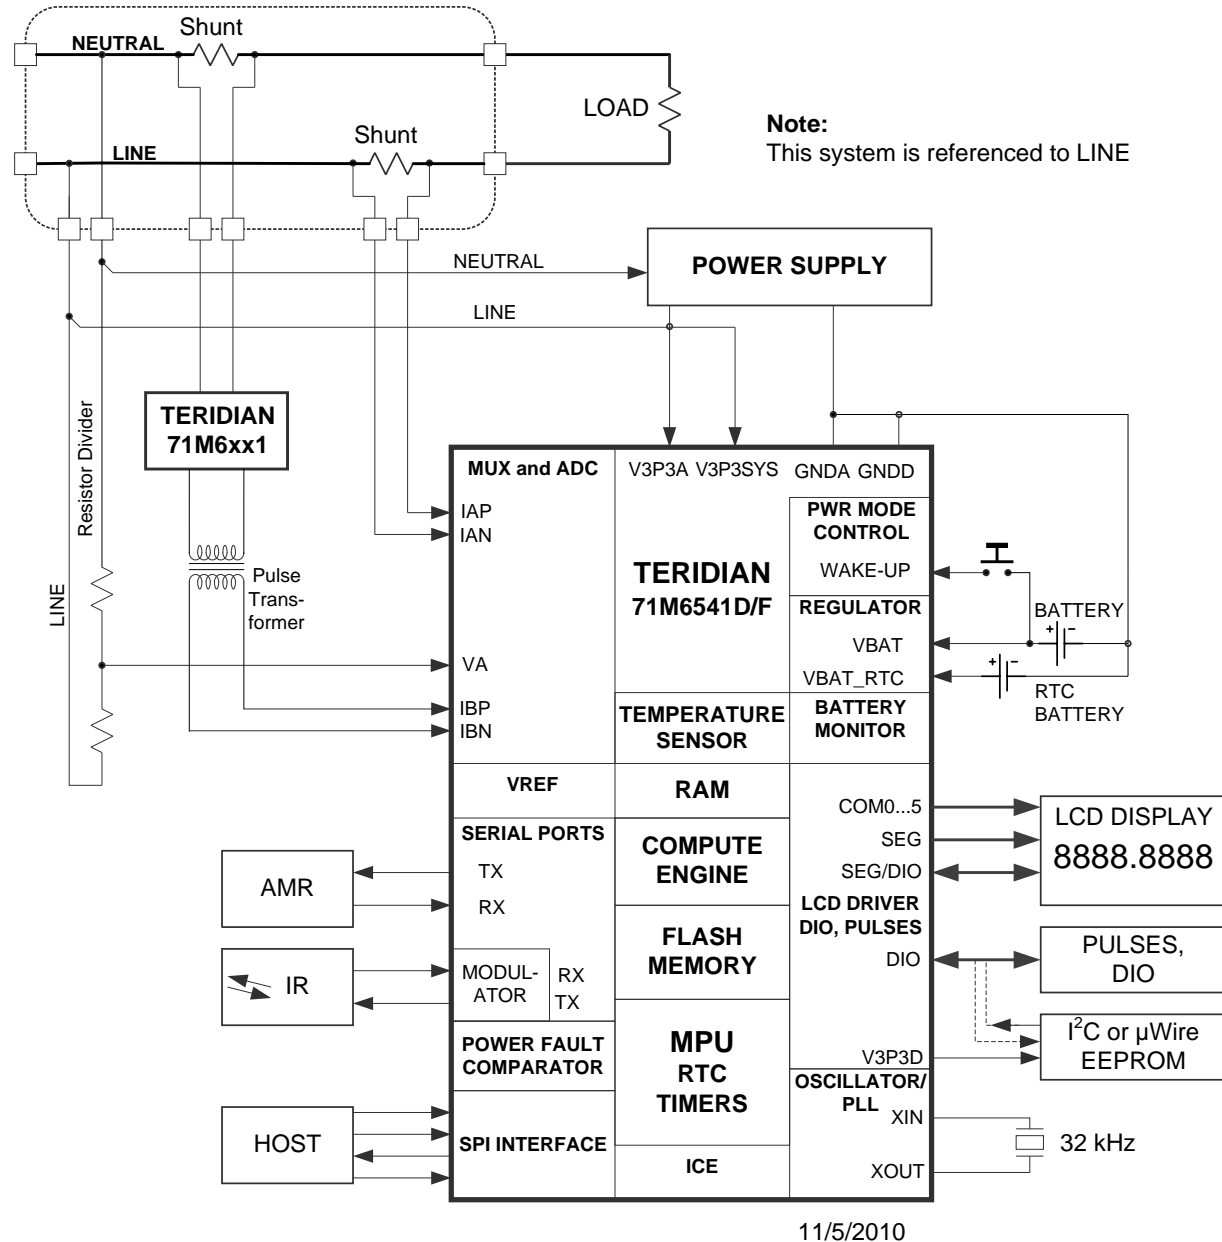
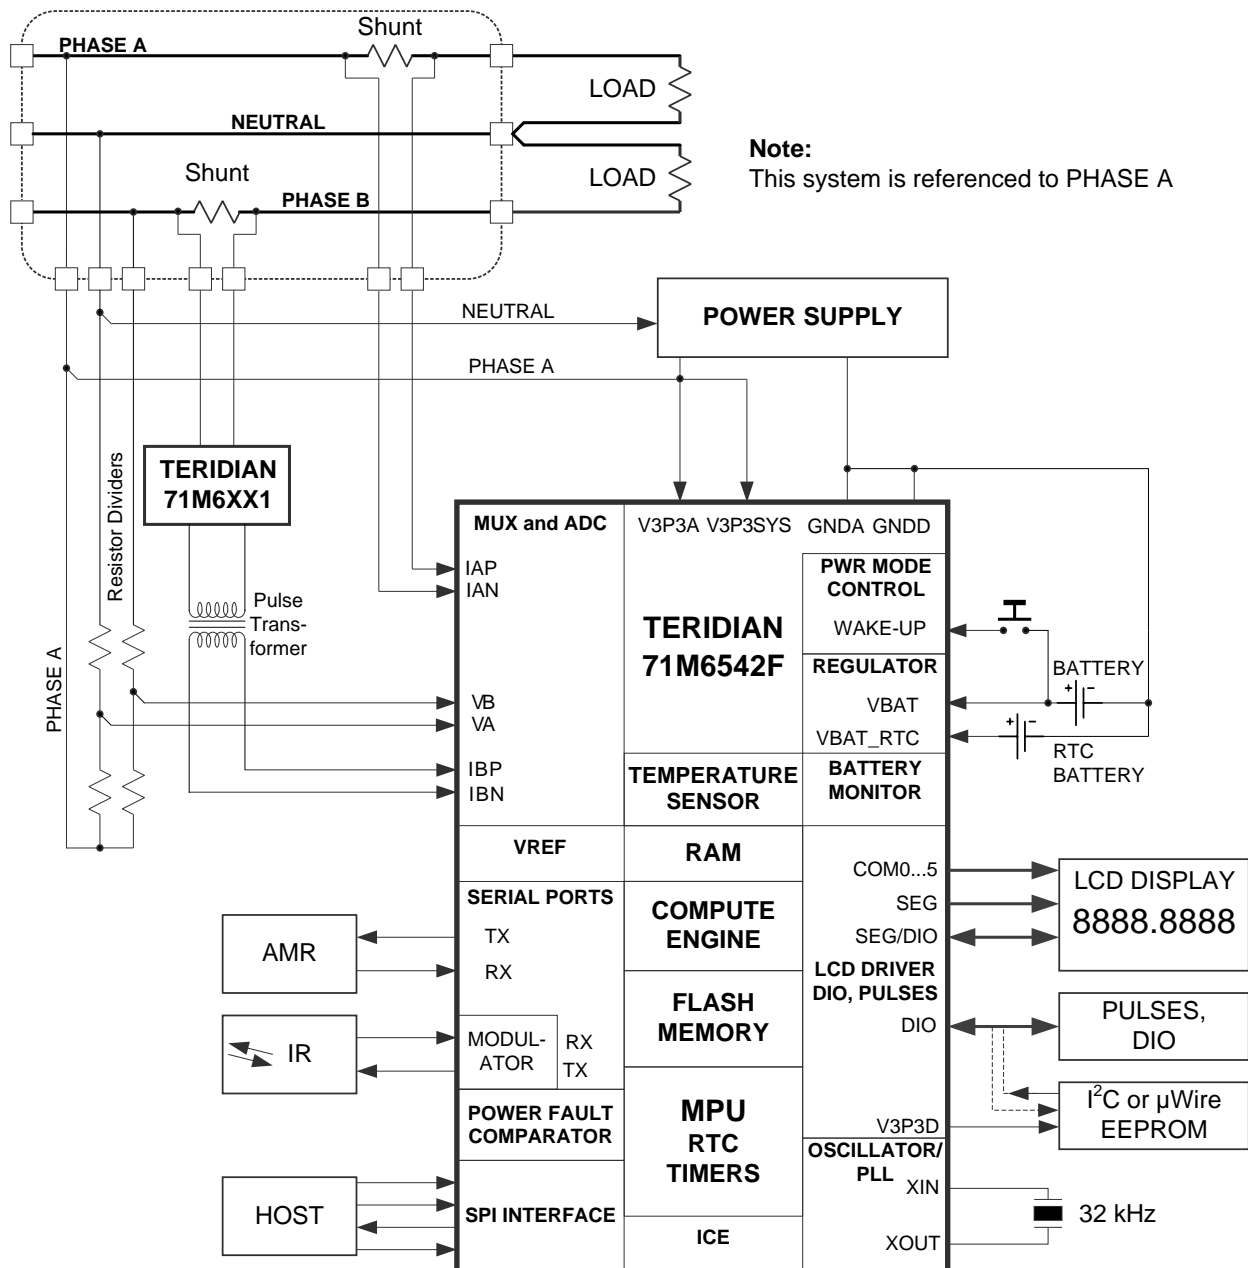

Figure 36: 71M6541D/F/G with 71M6x01 isolated Sensor
Figure 38: 71M6542F/G with 71M6x01 Isolated Sensor
Figure 36 shows a typical connection for one isolated and one non-isolated shunt sensor, using the 71M6x01 Isolated Sensor Interface. This configuration implements a single-phase measurement with tamper-detection using the second current sensor. This configuration can also be used to create a split phase meter (e.g., ANSI Form 2S). For best performance, the IAP-IAN current sensor input is configured for differential mode (i.e., $DIFFA_E = 1$, I/O RAM 0x210C[4]). The outputs of the 71M6x01 Isolated Sensor Interface are routed through a pulse transformer, which is connected to the pins IBP-IBN. The IBP-IBN pins must be configured for remote sensor communication (i.e., $RMT_E = 1$, I/O RAM 0x2709[3]). See Figure 3 for the AFE configuration corresponding to Figure 36.
Figure 38 shows a 71M6542F/G configuration using locally connected current sensors. The IAP-IAN current channel may be directly connected to either a shunt resistor or a CT, while the IBP-IBN channel is connected to a CT and is therefore isolated. This configuration implements a dual-phase measurement utilizing Equation 2. For best performance, both the IAP-IAN and IBP-IBN current sensor inputs are configured for differential mode (i.e., $DIFFA_E = 1$ and $DIFFB_E = 1$, I/O RAM 0x210C[4] and 0x210C[5]). The IBP-IBN input must be configured as an analog differential input disabling the remote sensor interface (i.e., $RMT_E = 0$, I/O RAM 0x2709[3]). See Figure 4 for the AFE configuration corresponding to Figure 38.
Figure 38 shows a typical two-phase connection for the 71M6542F/G using one isolated and one non-isolated sensor. For best performance, the IAP-IAN current sensor input is configured for differential mode (i.e., $DIFFA_E = 1$, $I/O\ RAM\ 0x210C[4]$). The 71M6x01 Isolated Sensor Interface is used to isolate phase B. The outputs of the 71M6x01 Isolated Sensor Interface are routed through a pulse transformer, which is connected to the pins IBP-IBN. The IBP-IBN pins must be configured for remote sensor communication (i.e., $RMT_E = 1$, $I/O\ RAM\ 0x2709[3]$). See Figure 5 for the AFE configuration corresponding to Figure 38.
This section discusses metrology temperature compensation for the meter designs where current shunt sensors are used in conjunction with the Teridian 71M6x01 isolated sensors, as shown in Figure 36 and Figure 38.
Referring to Figure 36 and Figure 38, the VA voltage sensor is available in both the 71M6541D/F/G and 71M6542F/G and is directly connected to the 71M654x. The VB voltage sensor is available only in the 71M6542F/G and is also directly connected to it. Thus, the precision of these directly connected voltage sensors is affected by VREF in the 71M654x. The 71M654x also has one shunt current sensor (IA) which is connected directly to it, and therefore is also affected by the VREF in the 71M654x. The external current sensor and its corresponding signal conditioning circuit also has a temperature dependency, which also may require compensation, depending on the required accuracy class. Finally, the second current sensor (IB) is isolated by the 71M6x01 and depends on the VREF of the 71M6x01, plus the variation of the corresponding shunt resistance with temperature.